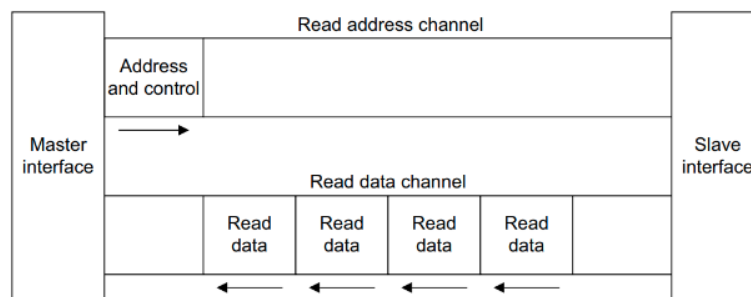

Figure 6. Channel architecture of reads
Figure 6 shows how a read transaction uses the read aNoDDRess and read data channels. First the aNoDDRess and control bits are sent from the master device, then the slave device responds with the data on the read data channel.
- A read data channel to transfer data from the slave to the master (Figure 6).